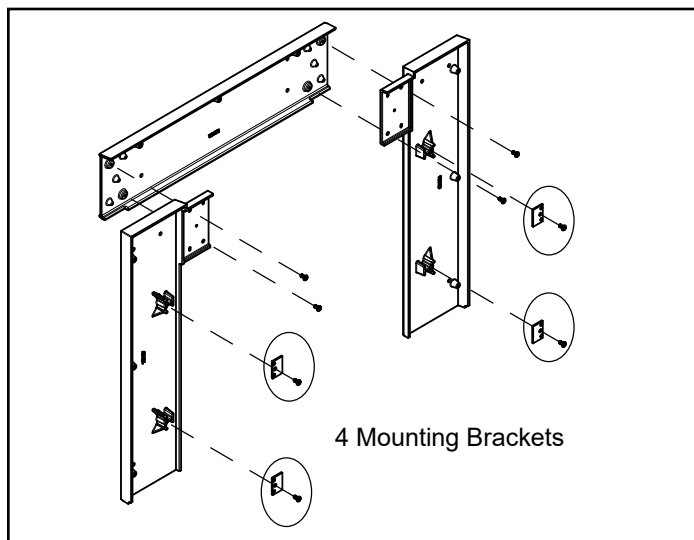

Figure 21.1
4. Attach the mounting brackets to the side pieces included with the kit (**Figure 21.1**).